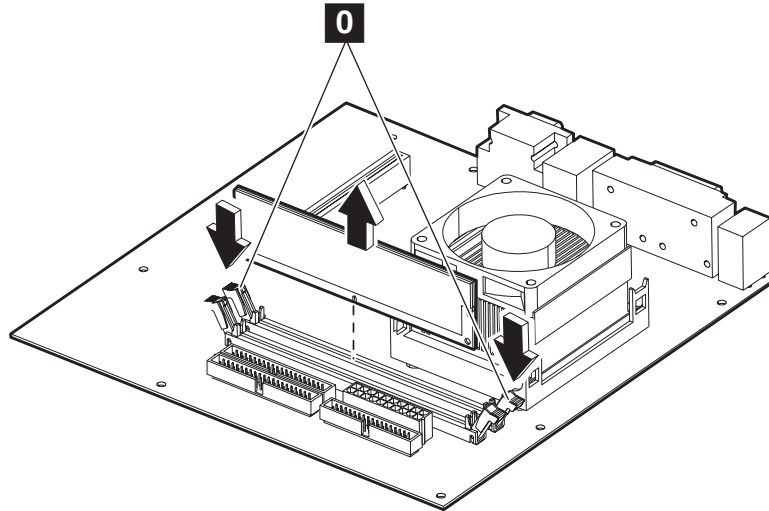

Figure 53. Opening the memory module latches
4. See Figure 53. Locate the memory modules and slots.